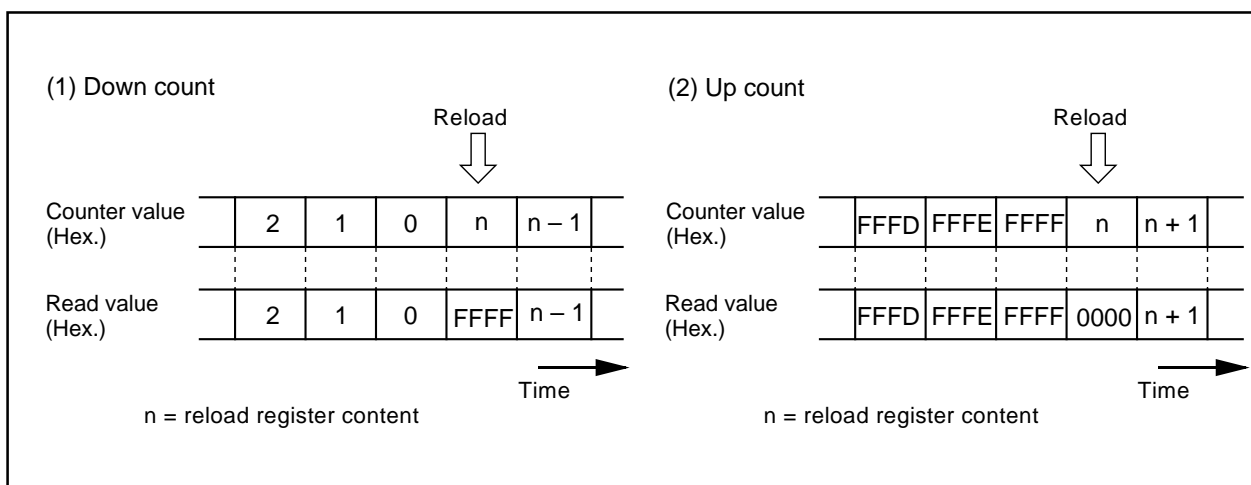

Figure 2.2.29. Reading timer Ai register
- (1) To clear reset, the count start flag is set to "0". Set a value in the timer Ai register, then set the flag to "1".
- (2) Reading the timer Ai register while a count is in progress allows reading, with arbitrary timing, the value of the counter. Reading the timer Ai register with the reload timing shown in Figure 2.2.29 gets "FFFF₁₆" by underflow or "0000₁₆" by overflow. Reading the timer Ai register after setting a value in the timer Ai register with a count halted but before the counter starts counting gets a proper value.